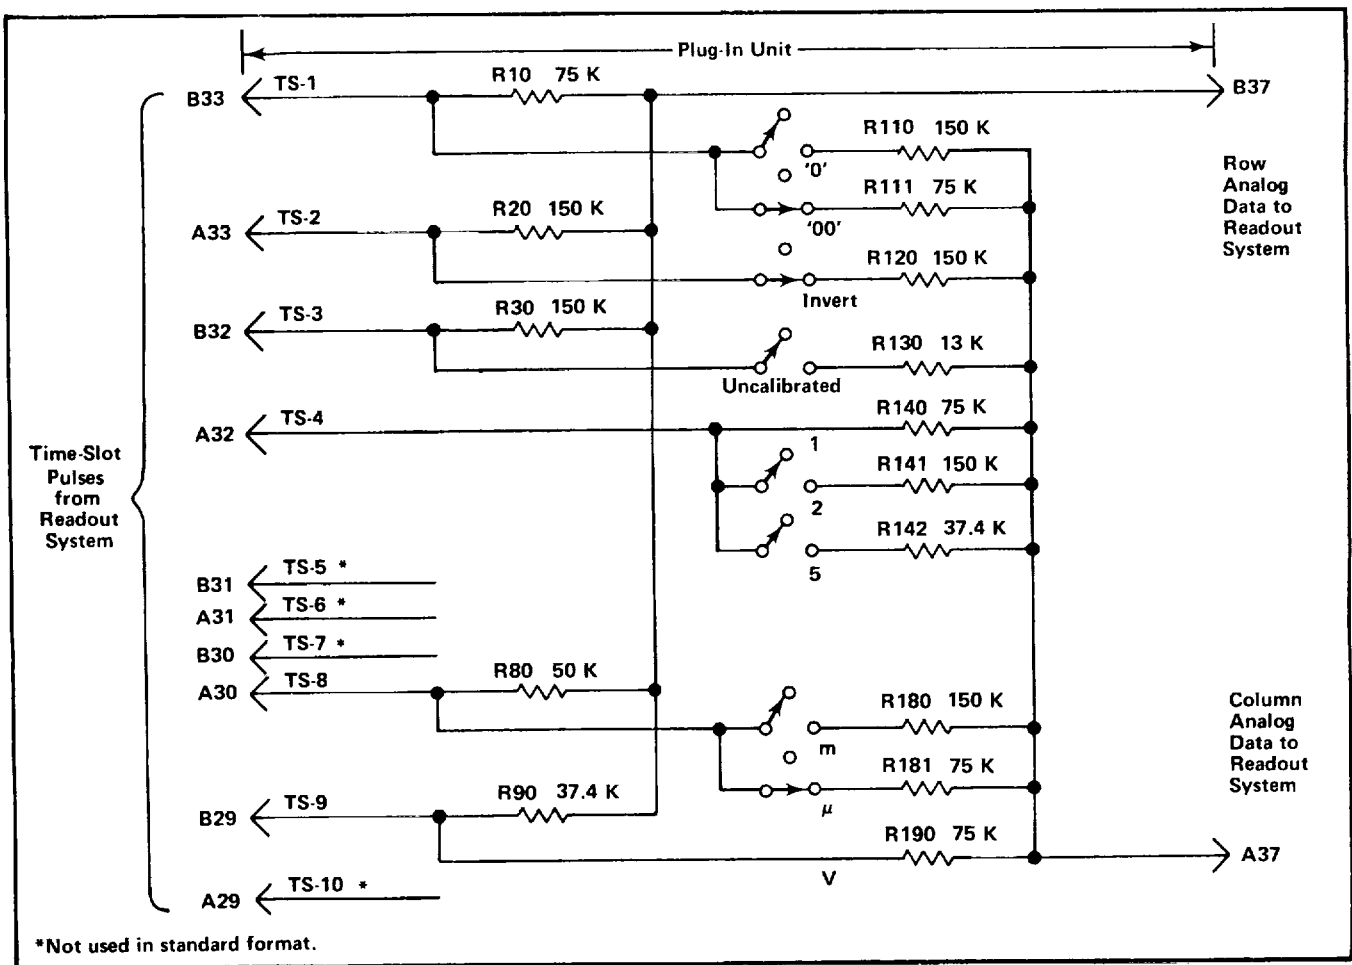

Fig. 3-45. Typical encoding scheme for voltage-sensing plug-in unit. Coding shown for deflection factor of 100 microvolts.
Data is conveyed from the plug-in units to the Readout System in the form of an analog code having up to 11 current levels (from zero to one milliampere in 100 microampere steps). The characters which can be selected by the encoded data are shown on the Character Selection Matrix (see Fig. 3-38). Each character requires two currents to define it; these currents are identified as the column current and the row current which correspond to the column and row of the matrix. The column and row data is encoded by resistive programming in the plug-in units. Fig 3-45 shows a typical encoding scheme for a voltage-sensing amplifier plug-in unit. Notice that the 10 time-slot (TS) pulses produced by the Time-Slot Counter stage are connected to the plug-in unit. However, time-slots 5, 6, 7, and 10 are not used by the plug-in unit to encode data when using the Standard Readout Format (see Table 3-2 for Standard Readout Format) The amplitude of the time-slot pulses is
For example, in Fig. 3-45 resistors R10 through R90 control the row analog data which is connected back to the Readout System. These resistors are of fixed value and define the format in which the information will be presented by the Readout System. Fig. 3-46A shows an idealized output current waveform of row analog data which results from the 10 time-slot pulses. Each of the steps of current shown in these waveforms corresponds to 100 microamperes of current. The row numbers on the left-hand side of the waveform correspond to the rows in the Character Selection Matrix shown in Fig. 3-38. The row analog data is connected back to the Readout System via terminal B37 of the plug-in interface.
time-slot lines by switch closures to encode the desired data. The data as encoded by the circuit shown in Fig. 3-45 (A)
only). The probe contains a resistor which results in additional column current. For example, if a 10X attenuator probe is connected to a plug-in with the coding for 100 microvolts as shown in Fig. 3-45, an additional unit of current is added to the column analog data during time-slot 1. Since two units of current were encoded by R 111 (see Fig. 3-45), this additional current results in a total of three units of column analog current during this time-slot. Referring to the Character Selection Matrix, three units of column analog current during this time-slot. Referring to the Character Selection Matrix, three units of column current along with the two units of row current encoded by R10 indicates that the prefix should be reduced. Since this instruction occurs in the same time-slot which previously indicated that two zeros should be added to the display and only one instruction can be encoded during a time-slot, the zeros do not appear in the display. The CRT readout will now be changed to 1 mV (readout program produced by plug-in same as for previous example).
Character Selection Matrix of Fig. 3-38 that a reduction of one column when row 4 is programmed results in a one unit reduction of the prefix. For example, with the 100 μ V program shown in Fig. 3-45, if the data received from the plug-in called for a reduction in prefix, the CRT readout would be changed to 1 mV (zeros deleted by program; see Encoding the Data).